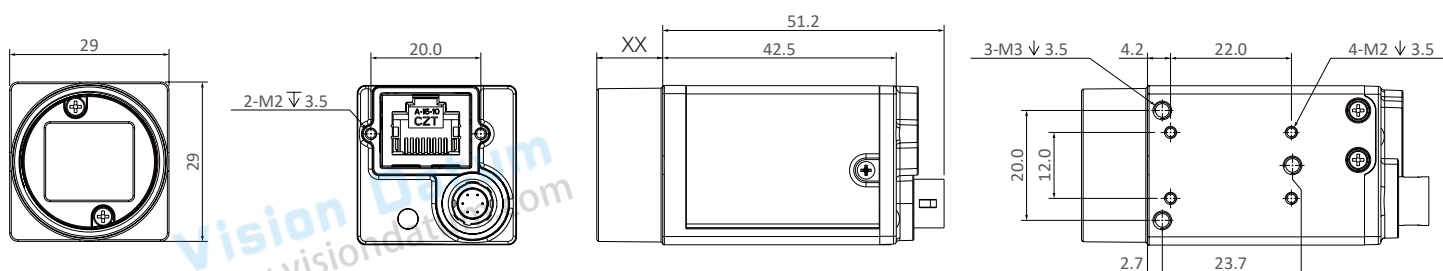

Fig. 1-2: Mechanical Dimensions (in mm) for GigE Cameras with 29 \* 29 \* 42mm flat housing.
- GigE Cameras with four-sided mounting 29 \* 29 \* 42mm housing are as shown in Figure 1-2.